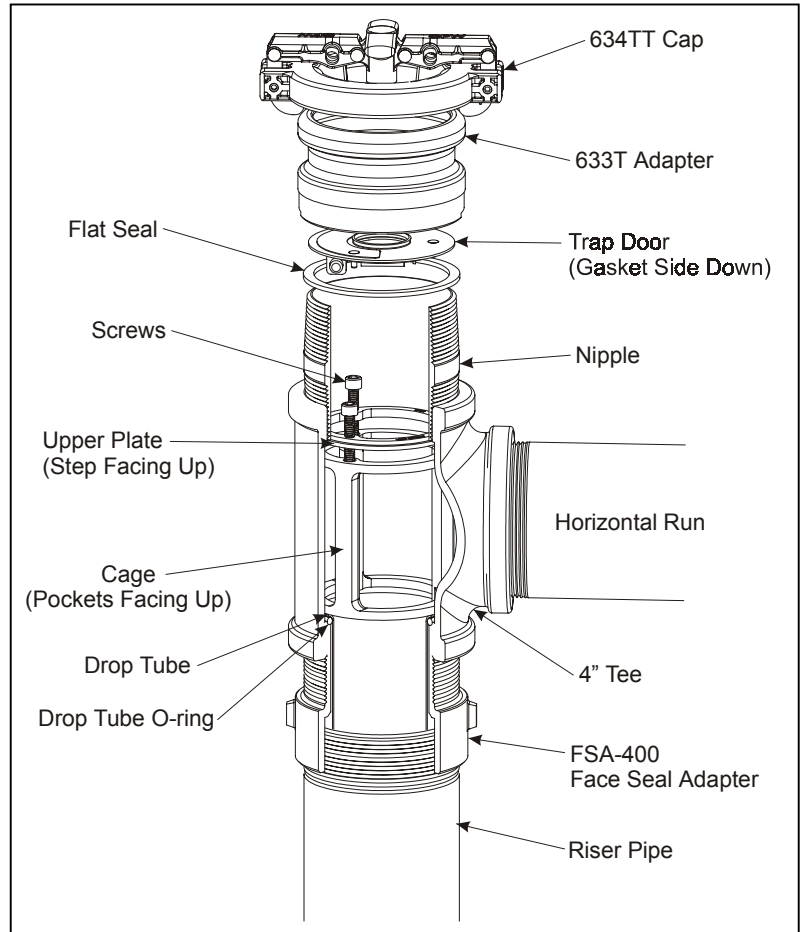

Figure 2
Step 3: (See Figure 2)
Step 4: (See Figure 2)
Step 5: (See Figure 2)
Step 6: (See Figure 2)
Step 7: (See Figure 2)
Step 8: (See Figure 2)
Step 9: (See Figure 2)